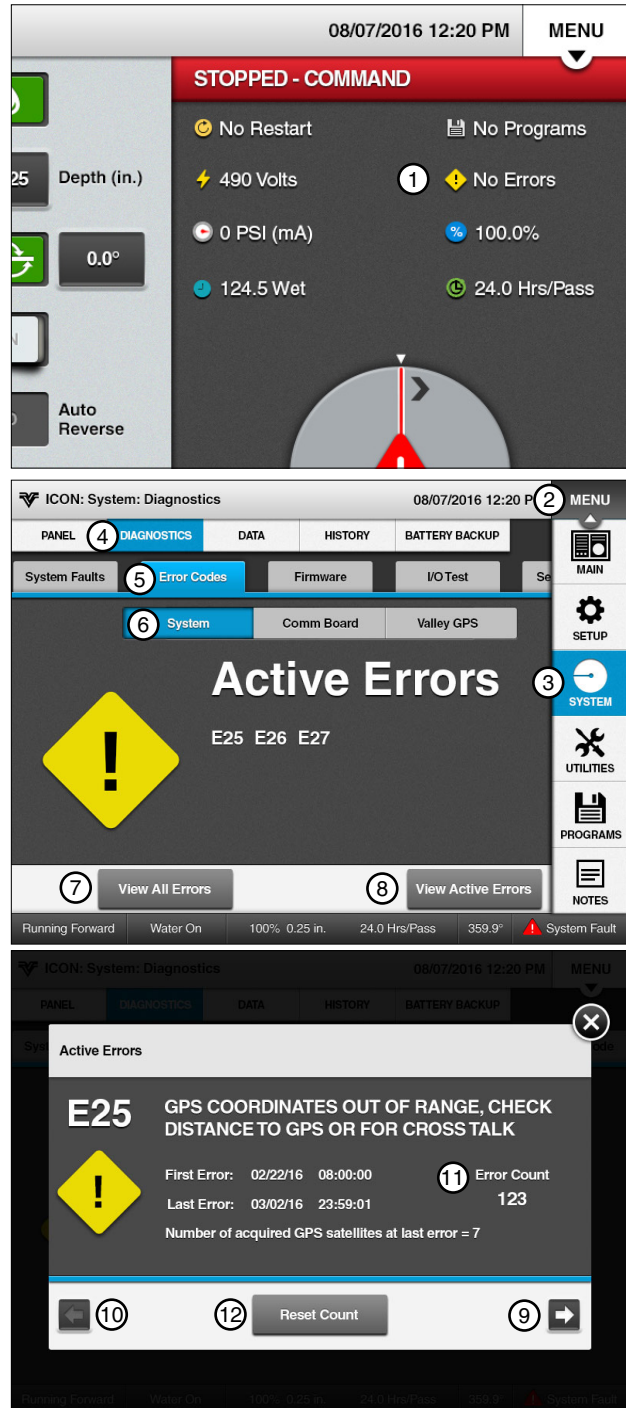

Figure 60-1
When an error occurs, information about the error, including the first time and date that the error occurred, last time and date that the error occurred, and total count of all times that the error occurred, is recorded. See Figure 60-1. A list of Error Codes are shown on the next page.
If one or more failures occur, the word Errors will display next to the Error icon in the status area of the Main Screen. Errors must be selected as a Main Screen status for it to appear on the Main Screen. See Figure 60-1.
To view the Error Codes refer to Figure 60-1 and do the following:
4. To set the Error Count to 0 (zero), push **Reset Count**. See Figure 60-1.